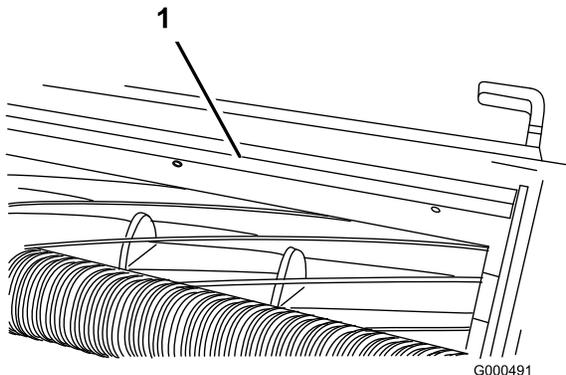

Figure 63
1. Loosen screws securing top bar (Figure 63) to cutting unit.